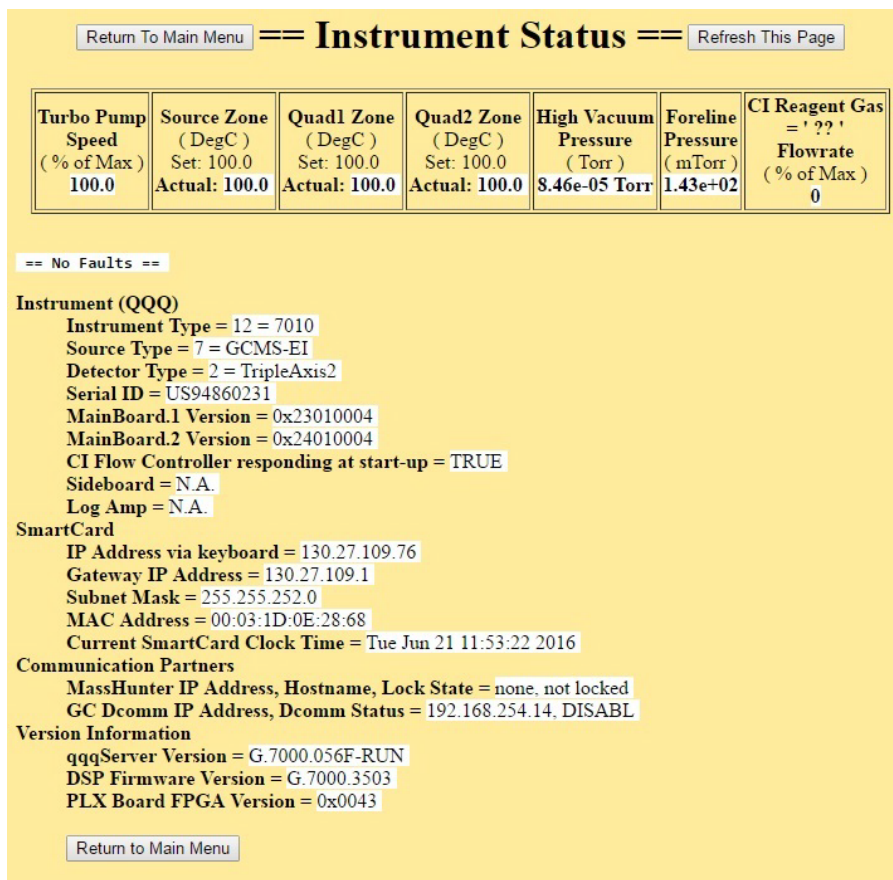

Figure 29. WUI instrument status
- Click **Instrument Status** to display the TQ turbo pump speed, zone temperatures, high vacuum pressure, TQ faults, net configuration parameters, and smart card firmware version. (See Figure 29.)